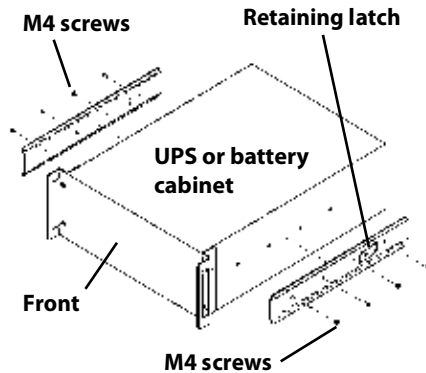

Figure 12: Fastening the inner members
5. Prepare the UPS or battery cabinet (the “equipment”) for rack mounting. The equipment may require additional parts to be added or removed. After it is prepared, lay the equipment in the rack-mounting position. Fasten the inner members from Step 1 to the equipment on both sides as shown in Figure 12 with eight M4 screws provided in the kit. Make sure the retaining latch is near the rear of the equipment as shown (see Figure 12).